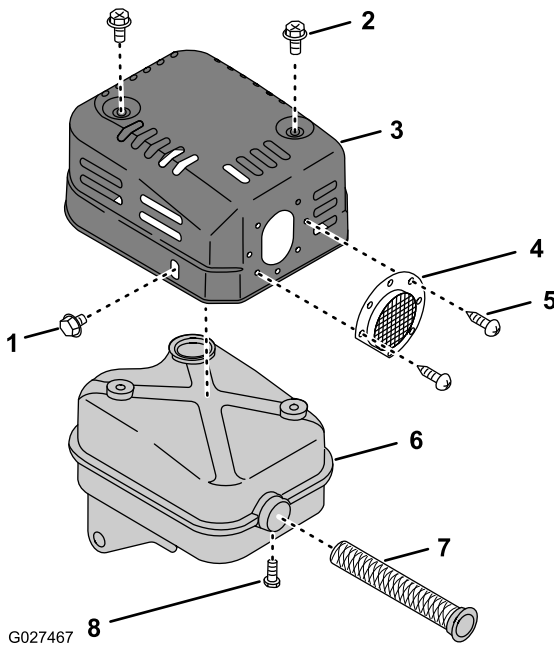

Figure 68
3. Remove the 2 self-tapping screws that secure the tail screen to the muffler cover and remove the screen (Figure 68 and Figure 68).
4. Remove the 2 bolts and 1 flanged-head bolt that secures the muffler cover to the muffler (Figure 68).
5. Remove the self-tapping screw that secure the spark arrester to the muffler and remove the spark arrester (Figure 68).
1. Remove the spark arrester (Figure 68).